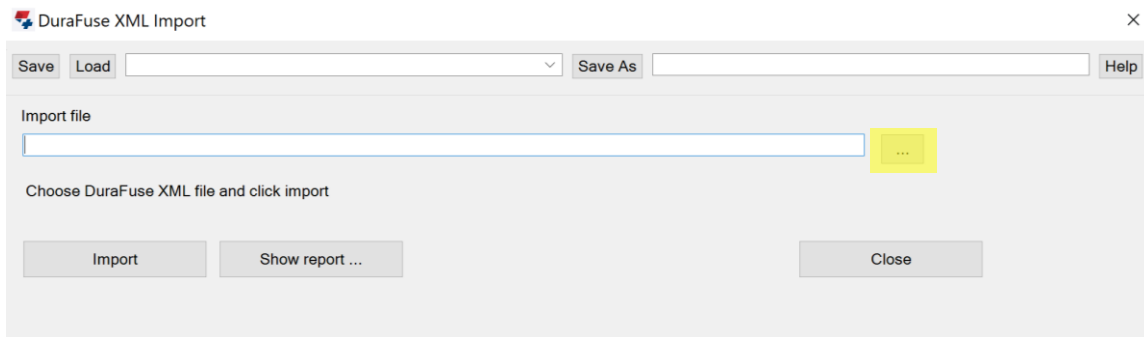

Figure 5-3. DuraFuse_XML Tool Dialog
4. The dialog in Figure 5-3 will show up. Select the  button and navigate to where the project specific XML file is saved.